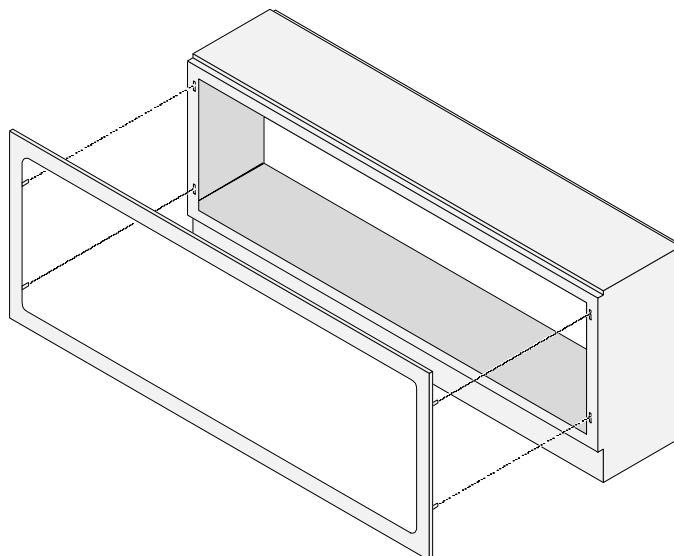

Figure 7
2. Attach the glass frame to the fireplace by inserting the tabs on the mounting brackets into the slots on the fireplace (see Figure 7). Magnets hold the mounting brackets in place.